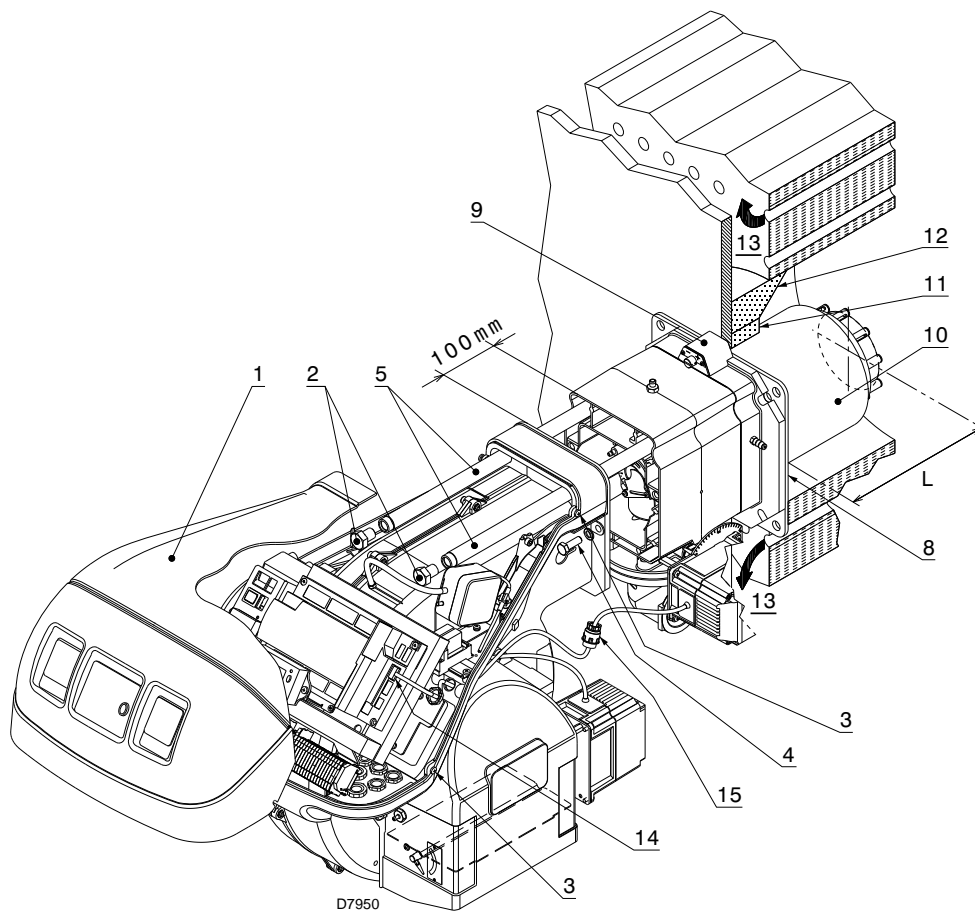

Fig. 15
For boilers with front flue passes 13)(Fig. 15 at page 21), or flame inversion chambers, a protection in refractory material 11) must be inserted between the boiler refractory 12) and the blast tube 10).
For boilers with a water-cooled frontal, a refractory cover is not necessary 11)-12)(Fig. 15), unless expressly requested by the boiler manufacturer.
Separate the combustion head from the rest of the burner, as in Fig. 15; proceed as follows:
- reassemble the burner on the guides 3) at about 100 mm from the pipe coupling 4) - burner in the position shown in Fig. 15;
- connect the plug of the servomotor 14)(Fig. 15) and tighten